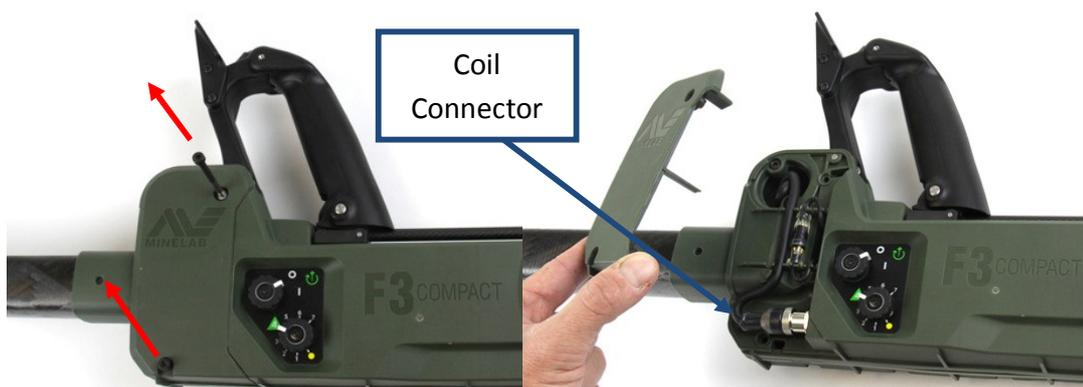

Figure 10: Removing Hinge Cover
- Place the detector on its right side with the ON/OFF switch uppermost and remove the two (2) screws (45mm) that secure the hinge cover. Figure 10.